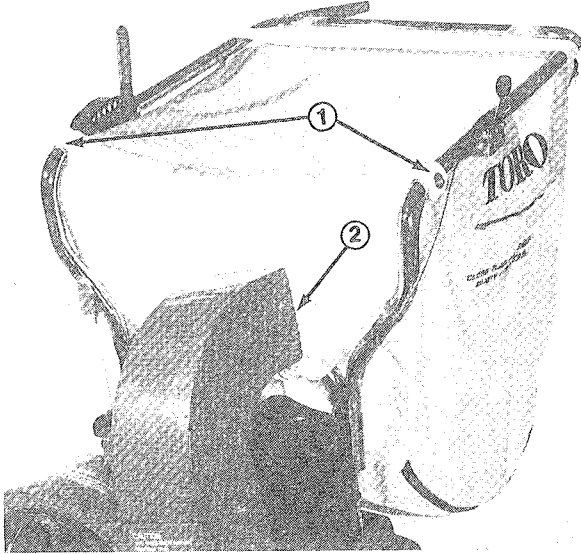

Figure 7
2. Position bag onto handle, hooking grommets over pins, and bag strap over handle (Fig. 7).
3. Slip elasticized neck of bag over the flanges on chute (Fig. 7).